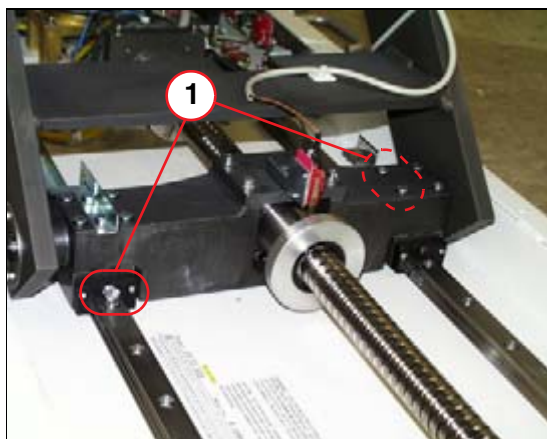

Fig. 2: Scissor: location of grease nipple
- Place the connector of the lubricant gun on one of the lubrication fittings of the guide rail to be lubricated (1/ Fig. 2 / p. 27).